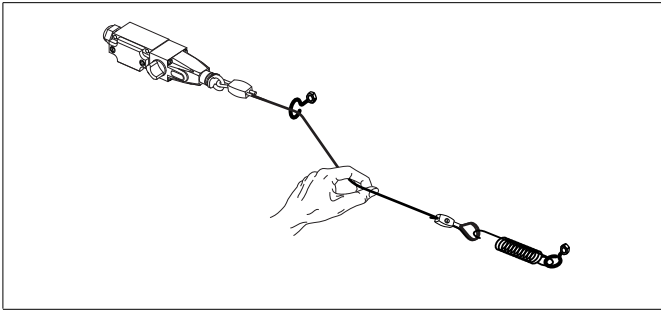
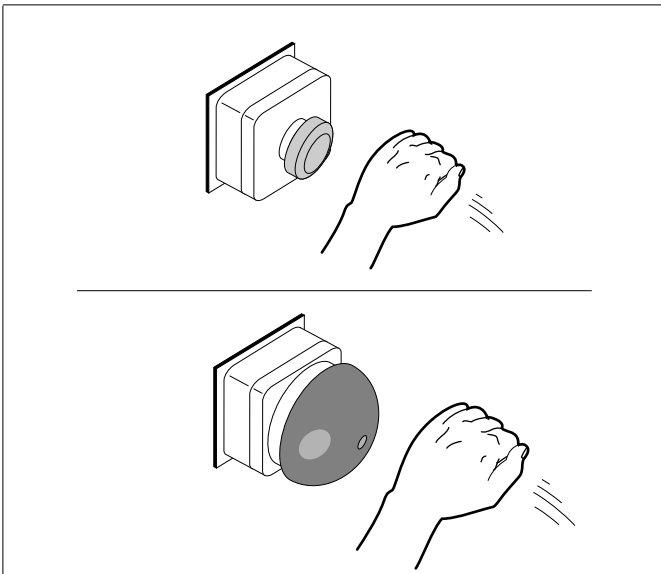
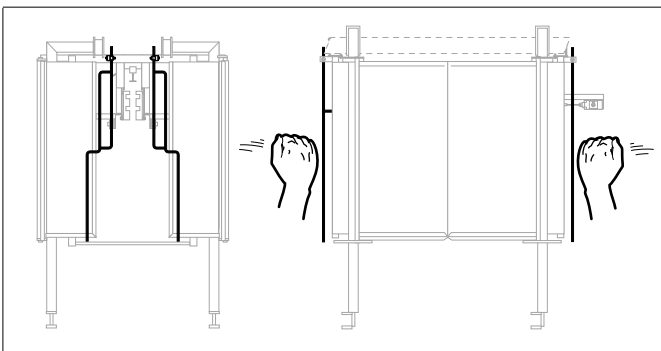

fig. 2 Emergency stop cord
fig. 3 Possible emergency stop switches
fig. 4 Emergency stop lever (possible execution)
- Emergency stop cord, see fig. 2
- Emergency stop switch, see fig. 3
- Emergency stop lever, see fig. 4
See fig. 2, fig. 3 and fig. 4.